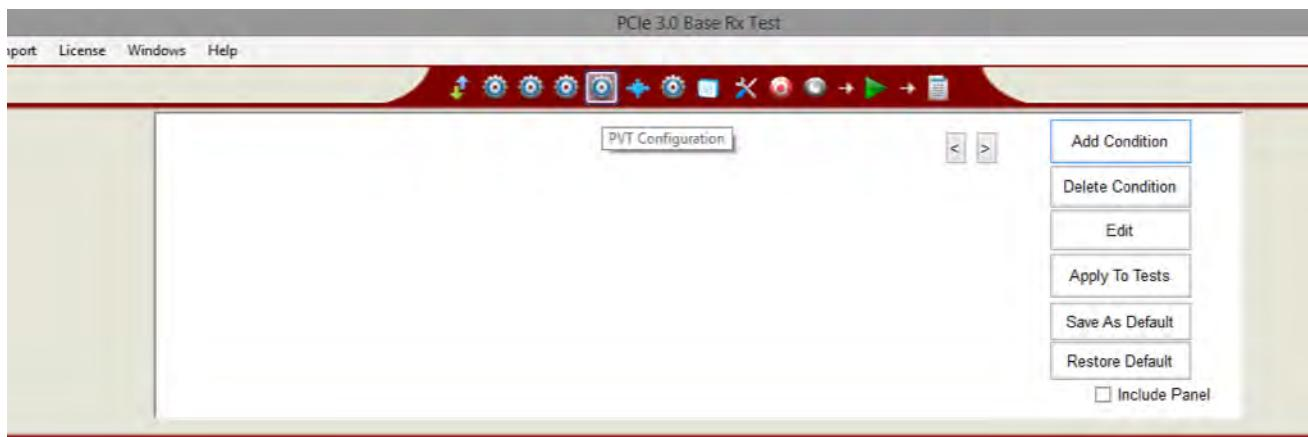

FIGURE 107 SELECT PVT CONFIGURATION
1. Select the PVT Configuration icon on the toolbar. See Figure 107.